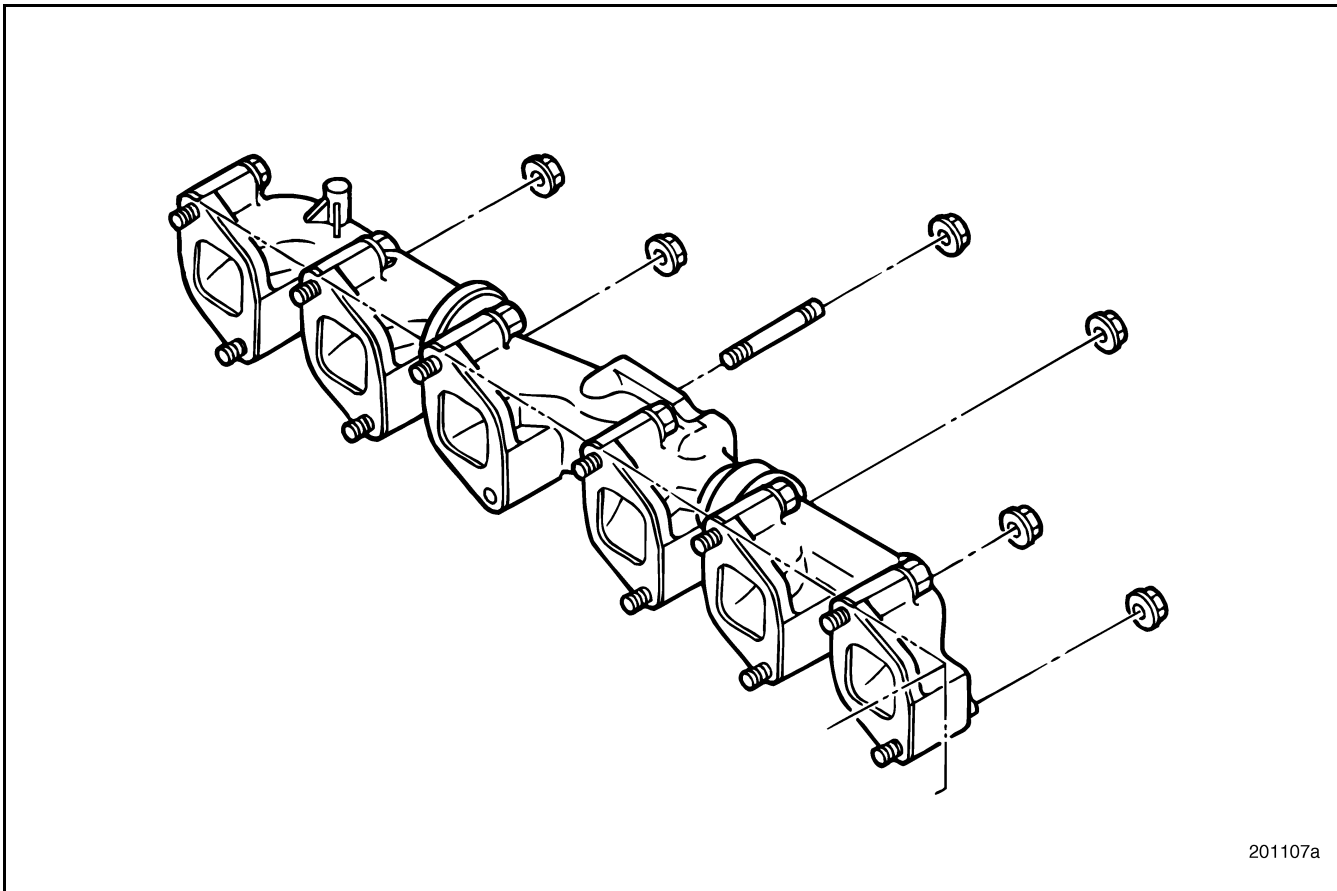

Figure 96 — Exhaust Manifold Removal
1. Support the exhaust manifold and remove 12 mounting nuts (Figure 96) securing the manifold to cylinder heads.